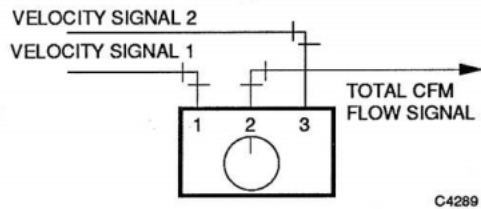

Fig. 20. RP922A Typical Summing Relay Application.
- In another application, the RP922A sums the input velocity signals of two ducts with different areas to produce a total flow signal (Fig. 20).